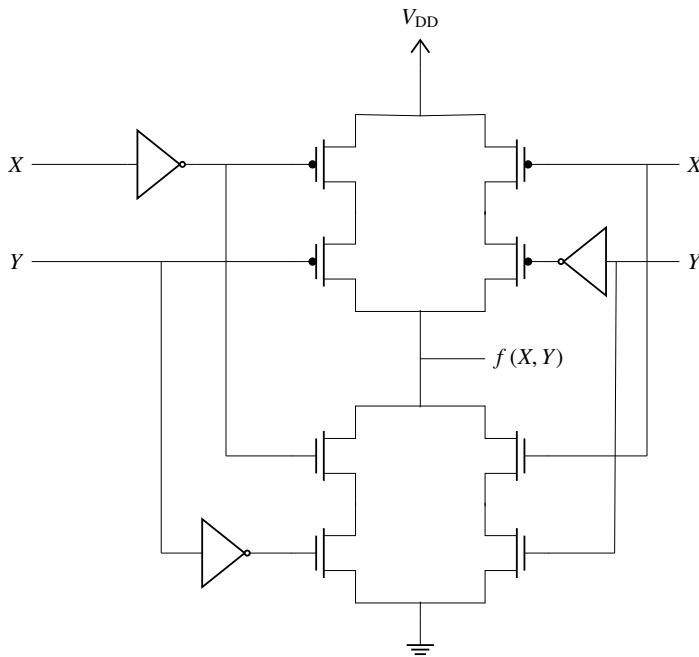

Fig. 3.37
54. The logic function $f(X, Y)$ realised by the given circuit in Fig. 3.37 is